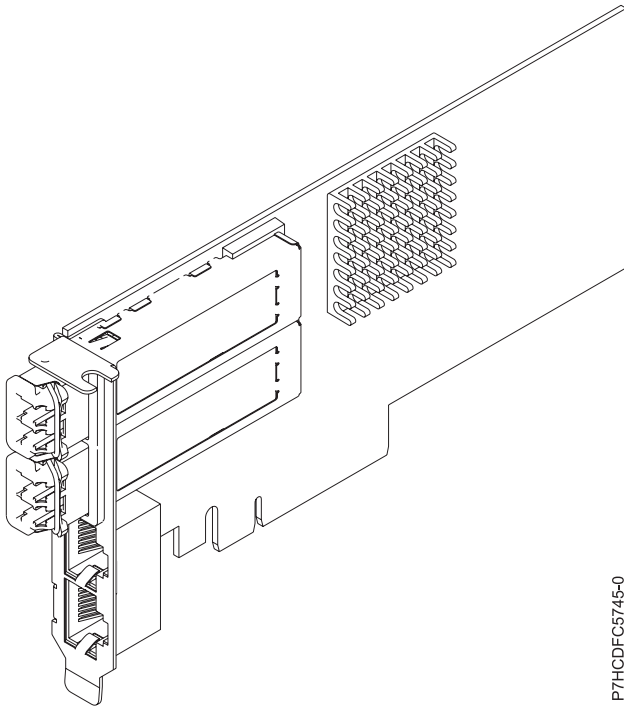

Figure 39. FC EN0J adapter
The four-port adapter provides two 10 Gb FCoE SR small form-factor pluggable (SFP+) ports and two 1 Gb RJ45 Ethernet ports. The two 10 Gb FCoE ports are connected by little connector-type (LC) connectors. Each FCoE port provides Ethernet connectivity with a nominal data rate of 10 Gbps (gigabits per second). Each of the 1 Gb ports provides Ethernet connectivity at a data rate of 1 Gbps and is connected with Ethernet cables. Figure 39 on page 124 shows the FC EN0J adapter.